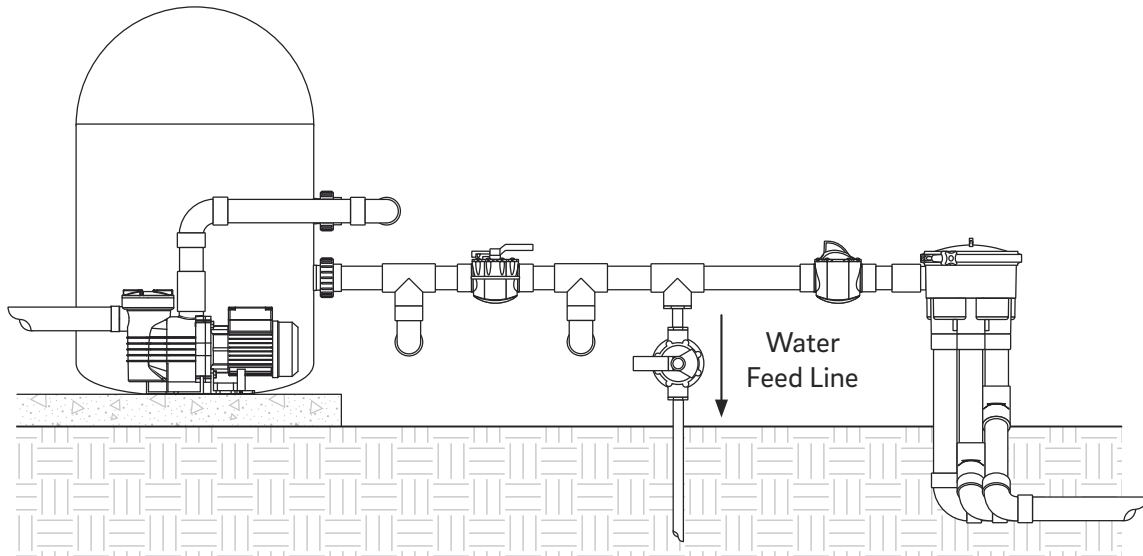

Figure 6
1. After the filter on the circulation return line, plumb a the main-line that will provide the supply water to feed line for the QuikDekClor. Use a gate-valve just below the Tee in the header (Figure 6). This valve will regulate the amount of water flow through the QuikDekClor and ultimately regulate the amount of chlorine that enters the pool.